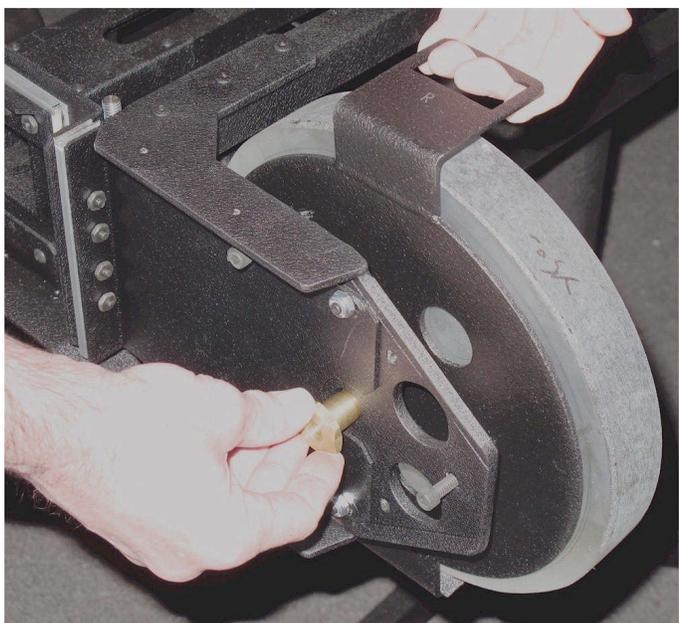

Figure 27
7. The end of the brass centering nut is conical in shape so that it will seat itself into the conical mounting-hole receptacle. The best way to make sure the cell is properly seated is to pull the mirror cell towards the front of the telescope until the cone of the brass nut is fully centered in the conical hole. Then tighten the nut until it draws the mirror cell back against the collimation bolts (Figure 27).